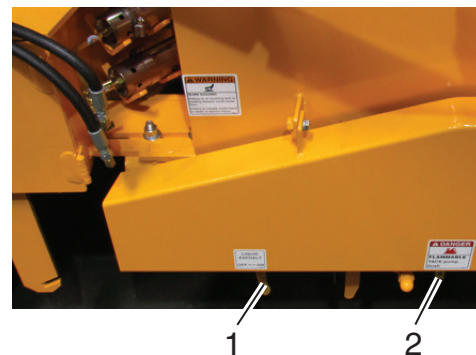

Figure 4-10. Tack Valves
8. Open the exit valve handle. See **Figure 4-10.**